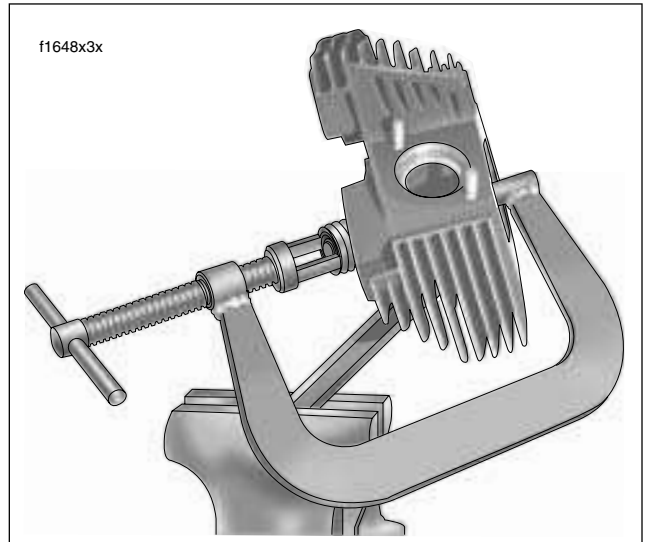

Figure 3-66. Compress Valve Springs
- a. Place tool over cylinder head so that the blunt end is centered on the valve head and adapter at end of forcing screw is seated on the valve spring retainer. See Figure 3-66.